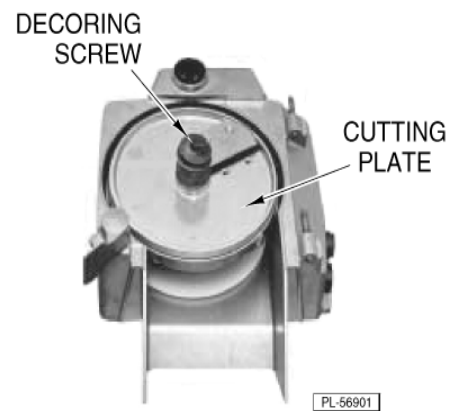

Fig. 4
6. **Avoid contact with sharp knife on the cutting plate** and put the desired cutting plate on the shaft and turn the cutting plate until it falls onto its coupling (Fig. 4). Turn counterclockwise to lock.
7. Put the decorating screw on the shaft. Turn it counterclockwise to tighten (Fig. 4).